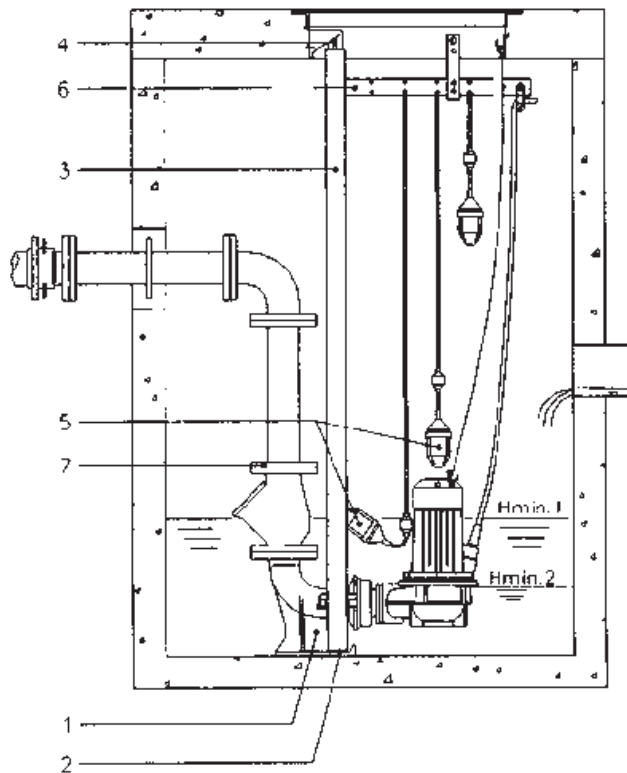

Figure 6
Turn the impeller clockwise by hand, using a proper socket wrench (*see figure 6*).
- Check that the motor is adequately cooled. The motorhousing should be at least 2/3 submerged for continuous operation at full load (see Hmin.1 Figure 6).